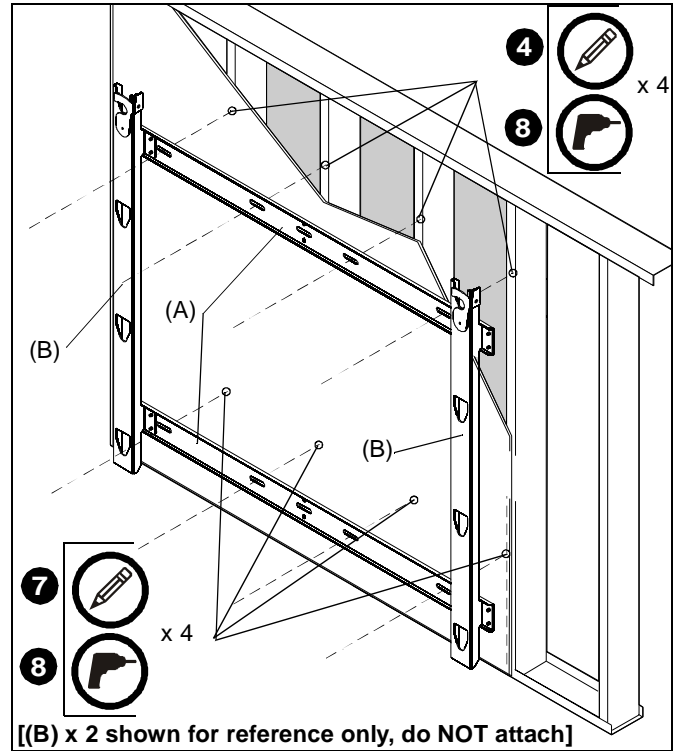

Figure 2
2. Place upper horizontal bracket (A) against wall in desired installation location. (See Figure 2)
4. Using a pencil or similar marking tool, mark the location of mounting holes in bracket onto surface. (See Figure 2)
5. Hang two vertical brackets (B) from upper horizontal bracket to determine mounting position for lower horizontal bracket (A). (See Figure 2)
6. Raise lower horizontal bracket (A) against wall in desired installation location using vertical brackets to determine distance from upper horizontal bracket. (See Figure 2)
7. Mark the location of mounting holes for the lower horizontal bracket onto surface. (See Figure 2)
8. Drill eight 1/4" pilot holes at marked locations. (See Figure 2)